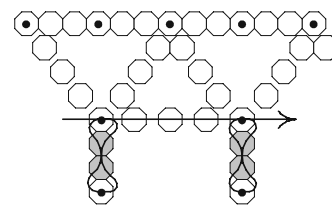

Fig. 9
5. Bring the needle back down the two primary-colored beads, through the same connector bead, and through the three support beads and into the next connector bead (Fig. 9).